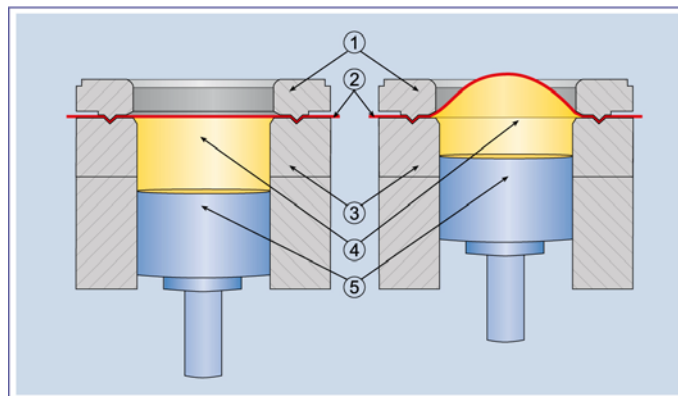

Fig. 1
A diagrammatic section of the bulge test device which is used in the Bulge/FLC Tester is shown in Fig. 1. The test panel (2) is clamped between the drawing die (1) and the blank holder (3). The chamber underneath the test panel is filled with special oil (4). The test panel is frictionless deformed into a bulge by means of the drawing piston (5) which moves upwards pressing the oil against the sheet metal. The thicker the sheet metal and the higher the tensile strength, the greater is the drawing force needed to deform the test panel.